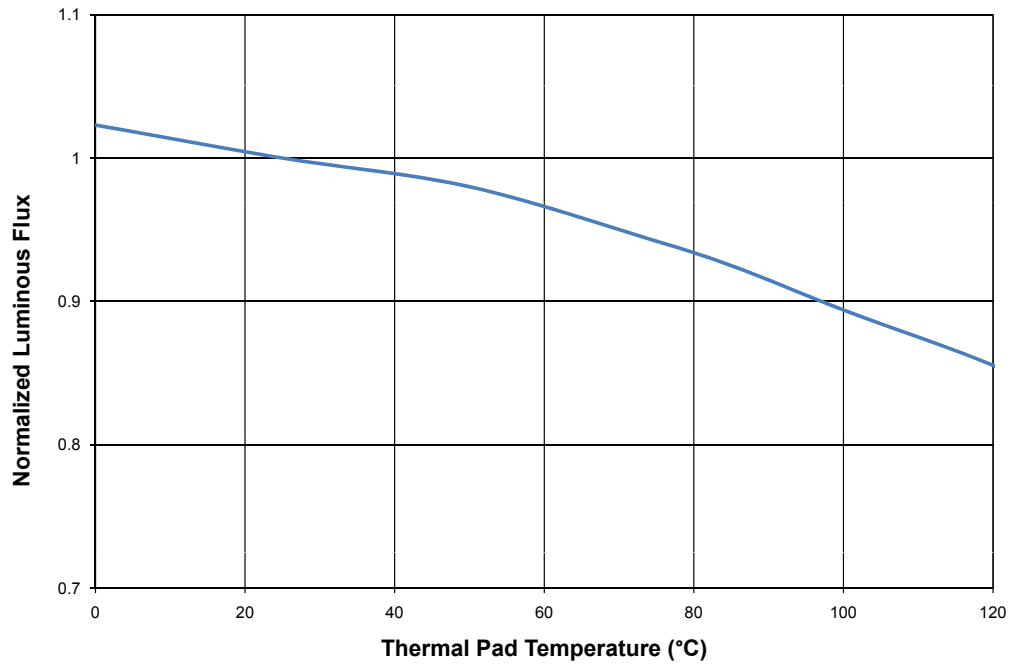

Figure 7. Relative light output vs. thermal pad temperature, LXAC-PW27 & LXAC-PW30.
3. Dynamic resistance is the inverse of the slope in linear forward voltage model for LEDs. See Figure 7 for more information.